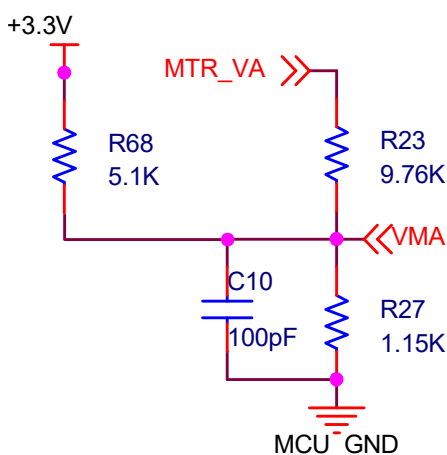
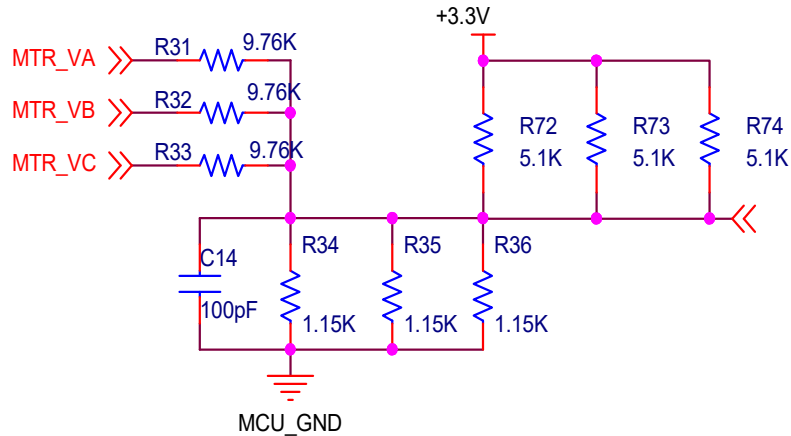

Figure 18. Back-EMF Filter Circuit for Motor Terminal Voltage
Figure 19. Virtual Neutral Filter Circuit
1. Ensuring the filtered terminal and virtual neutral voltages are positive - this is accomplished by adding a small positive offset voltage in the filter circuits as shown in Figure 18 on page 21 and Figure 19 on page 22.